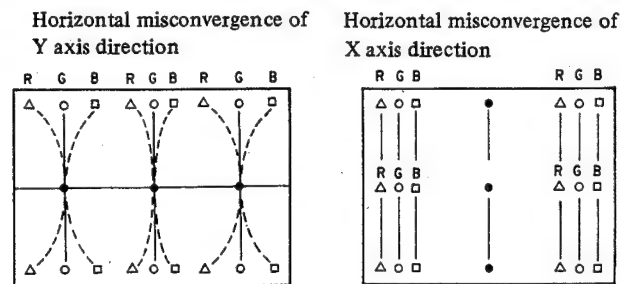

Figure 20
The Deflection Yoke (DY) used in this model generates an almost uniform magnetic field in order to get fine beam spot size. Accordingly basically misconvergence of horizontal direction as shown in Figure 20 is generated on the picture screen.